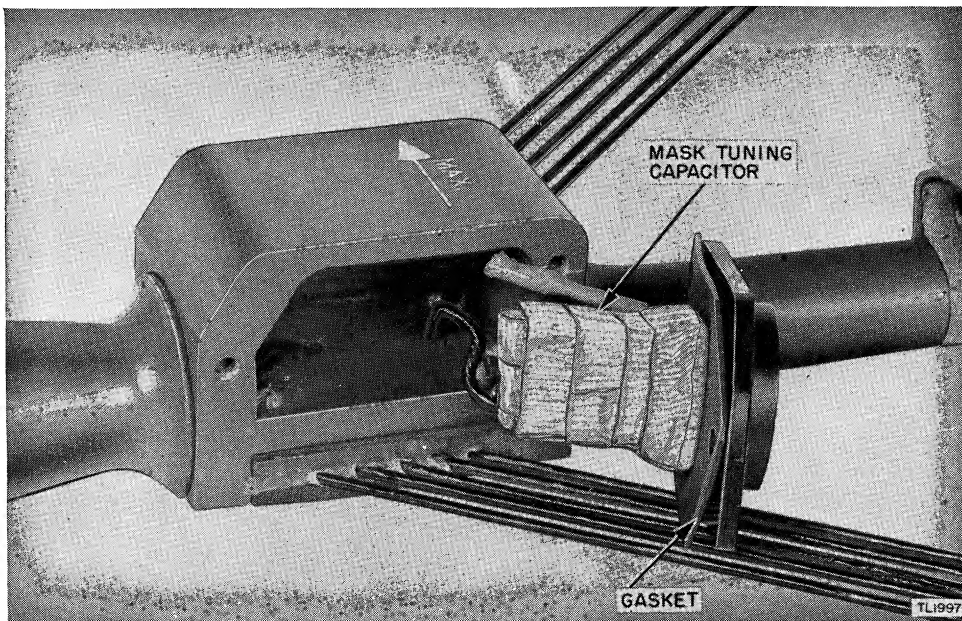

Figure 44. Tuning capacitor, masking.
(3) Loop trimmer capacitor. (See fig. 44.)
wires attached to the tuning capacitor will allow. (See fig. 44.)